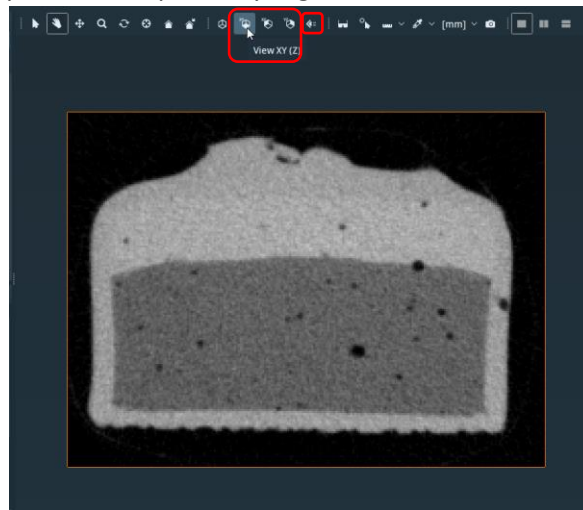

Figure 5
9. Set the viewer on the XY plane (in order to be on the plane normal to the extrusion direction (Z in our case)) and then switch to an Orthographic Camera and fit on the slice as for your convenience to input points more precisely: Figure 5